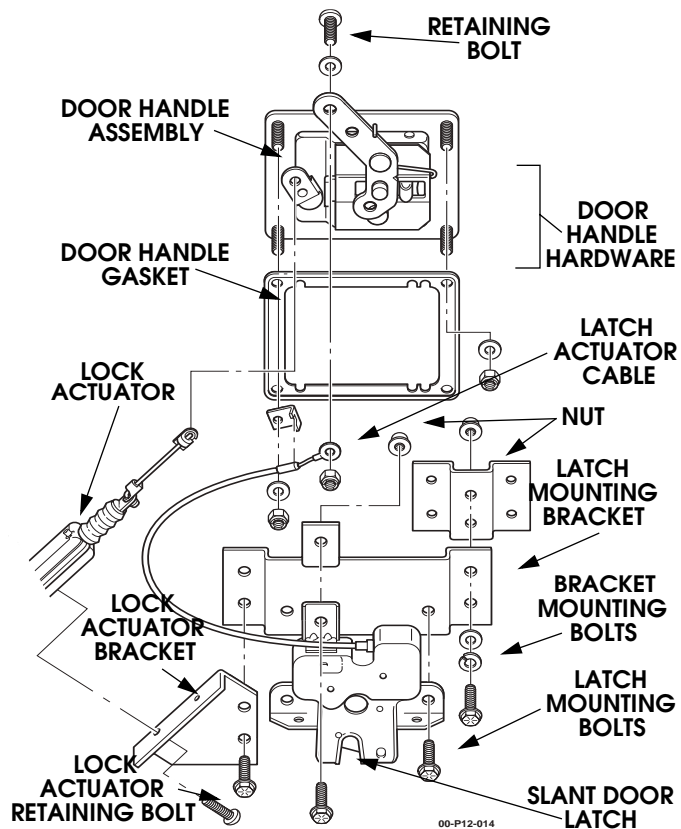

Figure 10-178: Slant Door Latch and Handle Break-down
2. Disconnect the latch actuator cable from the slant door handle assembly by removing the retaining nut, and bolt (Figure 10-178).
1. Install the slant door latch to the bracket using the previously removed door latch hardware (Figure 10-178). Tighten the latch bolts to 12 lb-ft (16 N.m).
1. Loosen the four latch bracket mounting bolts until the latch moves horizontally and vertically (Figure 10-178).